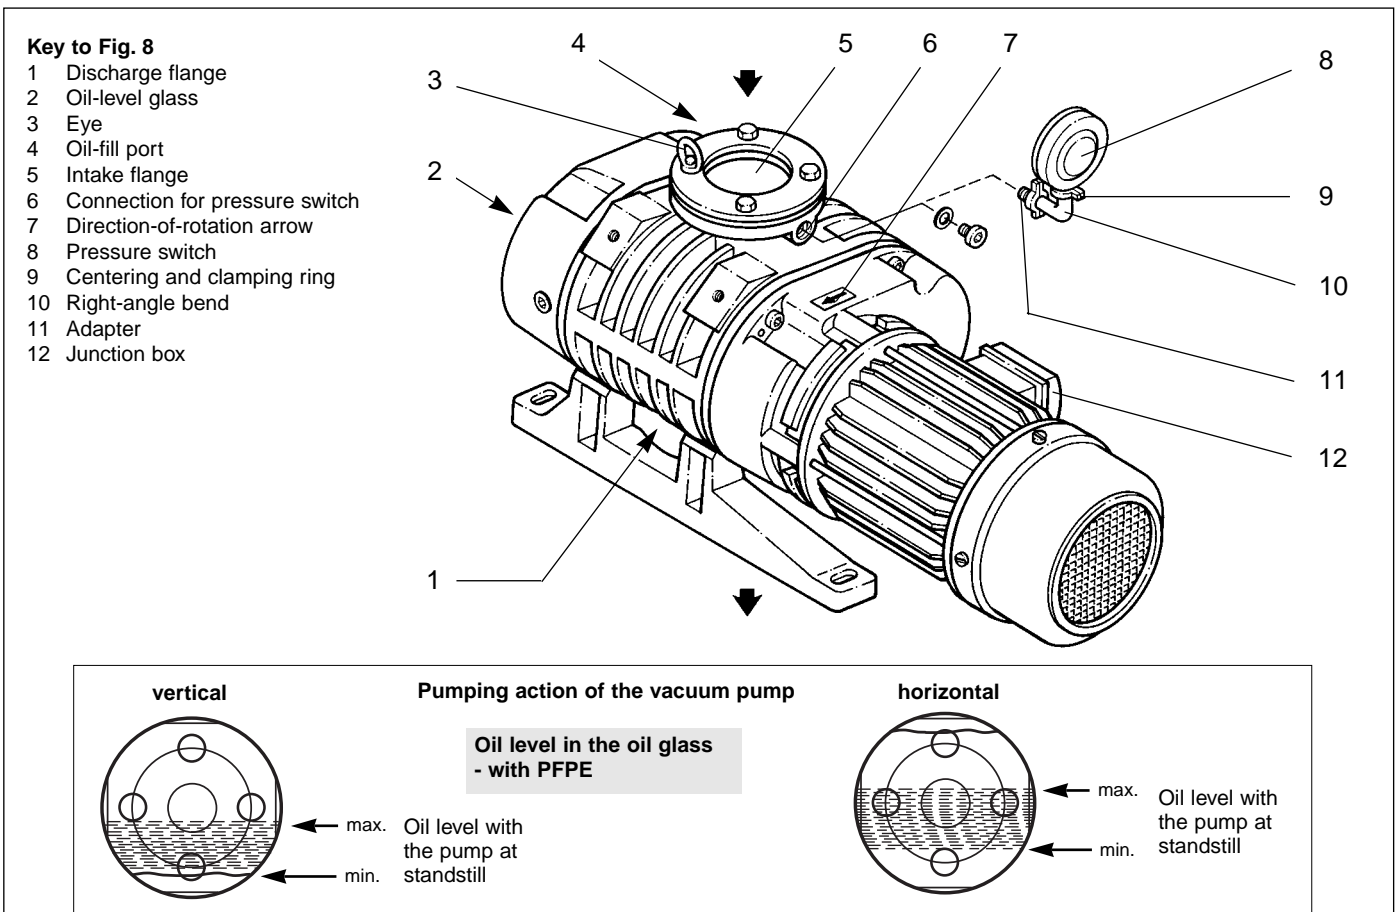

Fig. 8 Connections and controls; arrows = direction of flow
6) authoritative, however, is the oil level at the oil-level glass, see Fig. 8 and 9
**Caution** When operating the pump with PFPE, the correct oil level must be as shown in Fig. 8. If the oil level is too low, the bearings and gearwheels are not lubricated adequately; if it is too high oil may enter the pumping chamber.